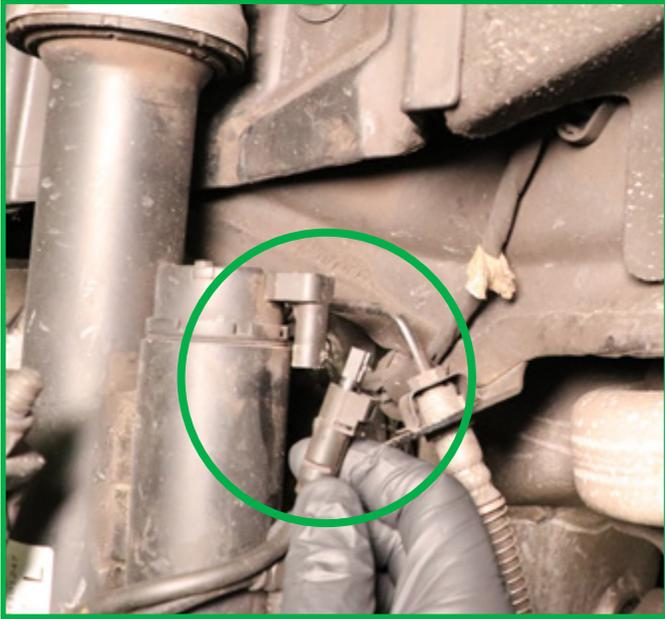

FIGURE 7
7. Disconnect both electrical connectors. (Figures 7, 8)